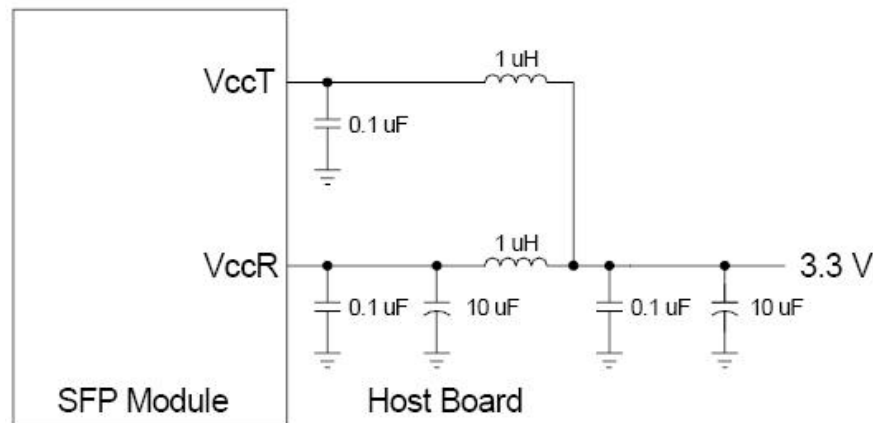

Figure 3. Typical power supply application schematics
7. This pin should be connected to a filtered +3.3V power supply on the host board. See Figure 3.Recommended power supply filter
The MSA power supply noise rejection filter is required on the host PCB to meet data sheet performance. The MSA filter incorporates an inductor which should be rated 400mADC and 1 Ω serial resistance or better. It should not be replaced with a ferrite. The required filter is illustrated in Figure 3. The MSA also specifies that 4.7K to 10K Ω pull-up resistors for TX_FAULT, LOS, and MOD_DEF0,1,2 are required on the host PCB. Figure is the suggested transceiver/host interface.